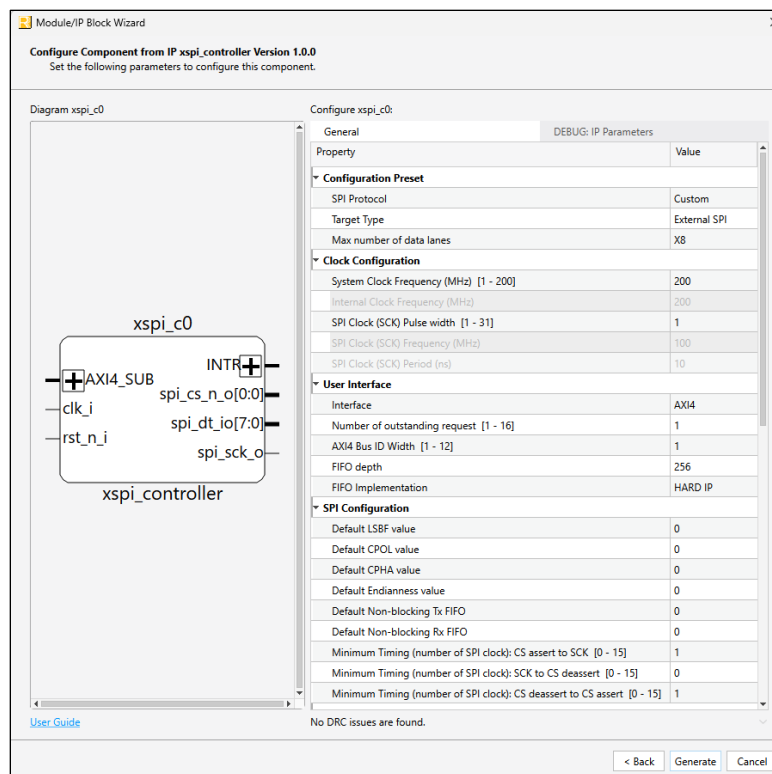
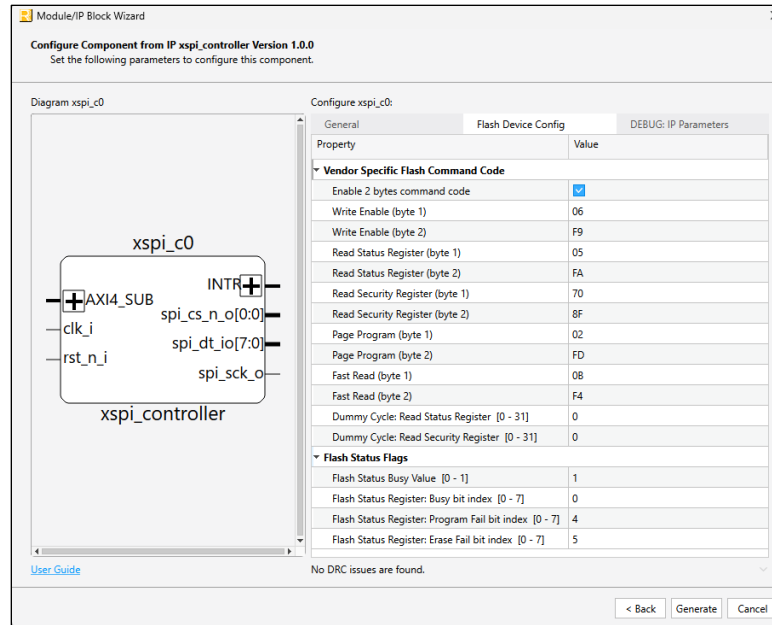

Figure 7.2. IP Configuration (View 1)
Figure 7.4. IP Configuration (View 3)
5. Customize the selected xSPI Controller IP using drop-down lists and check boxes. Figure 7.2 through Figure 7.4 show an example configuration of the xSPI Controller IP. For details on the configuration options, refer to the Parameter Description section.